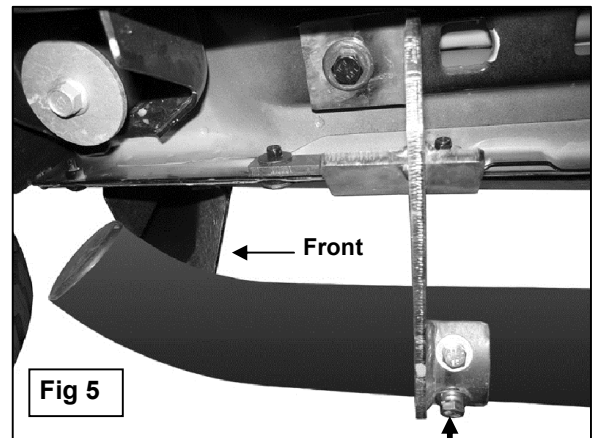

Fig 5
- 6.** Once all three Mounting Brackets are securely in position, place the passenger Sidebar onto the Mounting Brackets and secure it with the included (6) 8mm x 25mm Hex Bolts, (6) 8mm Lock Washers and (6) 8mm Flat Washers, **(Figure 5)**. **NOTE:** Mounting cradles on Brackets should be inline and pointing toward the rear of the vehicle for proper installation. Snug all hardware but do not tighten at this time.